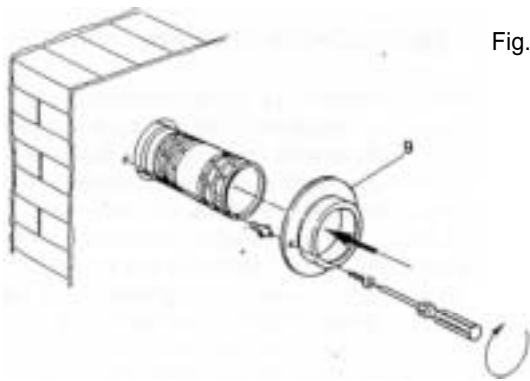

Fig. 37
- 5.7.10** Fit terminal cover plate if required (Fig. 37).